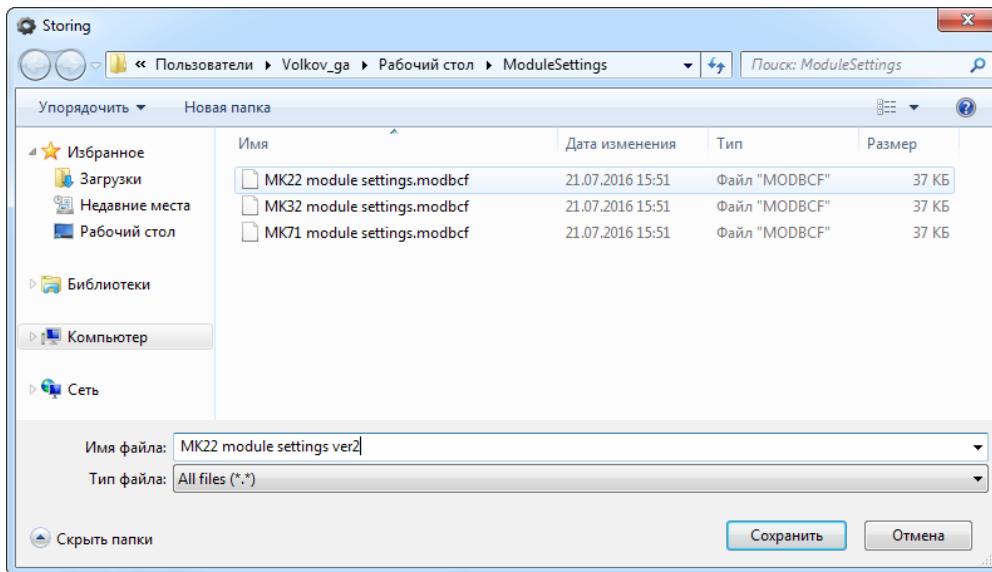

Figure 14 - Selecting setting save place
2) in dialog window select place where setting file will be saved (Figure 14);